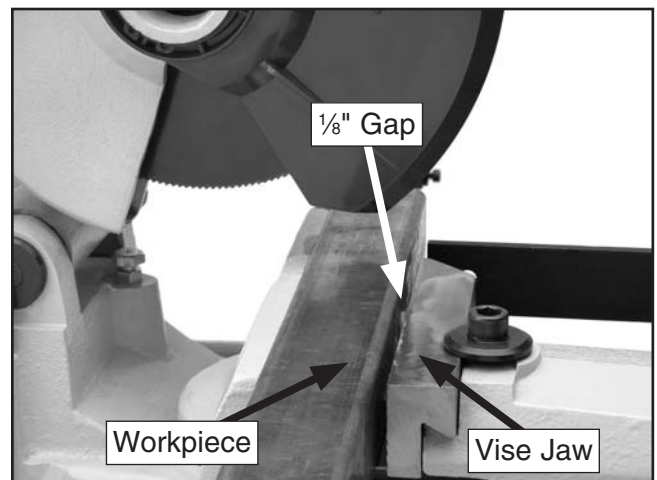

Figure 29. Closing vise.
4. Close the vise to within approximately 1/8" of the workpiece, as shown in **Figure 29**.